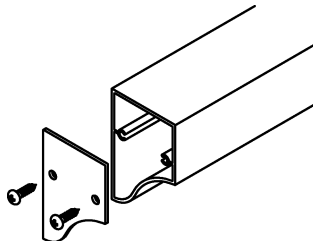

fig 8
- Step 8:** Attach end plates to open ends of continuous bracket using #8-32 x 3/8" type F Phillips pan head screws included. Install end plates only at ends occurring at molded accessory locations, see **fig 8**.